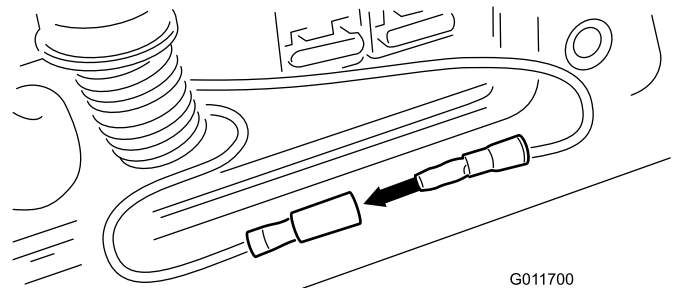

Figure 57
4. With the key in the Off position, remove the cap from jumper wires and plug the wires together (Figure 57).